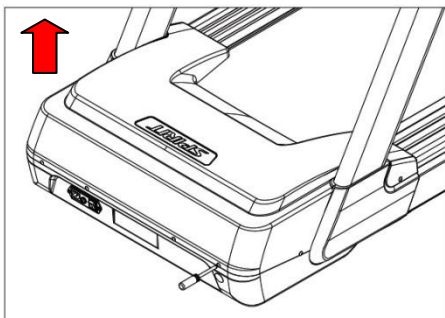

Figure 4.2.1
- 4) As shown in Figure 4.2.1, use a screwdriver to loosen the eight screws that secure the motor cover. Remove the motor cover.
9) Refer to figure 4.2.1 to remove the motor cover.